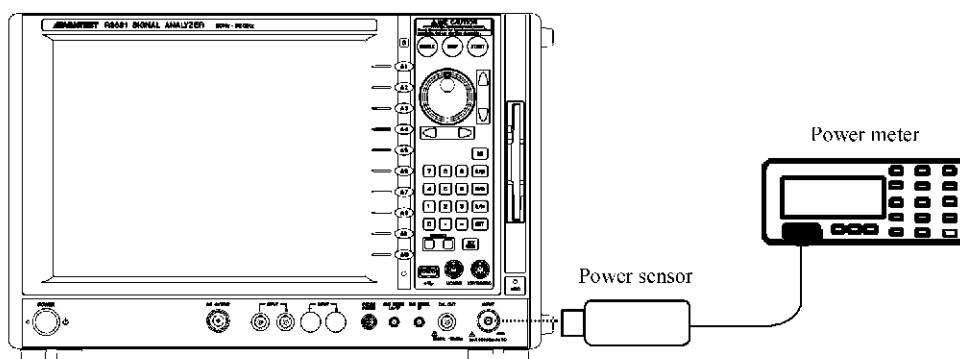

Figure 8-27 Level Accuracy Verification Connection Diagram
2. Connect the instruments as shown in Figure 8-27.